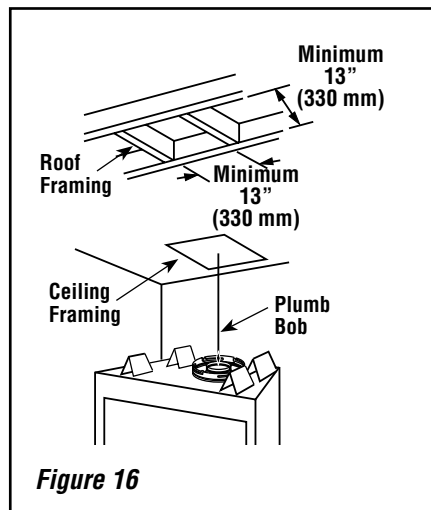

Figure 16
A. Frame ceiling opening - Use a plumb line from the ceiling above the appliance to locate center of the vertical run. Cut and/or frame an opening, 13" x 13" (330 mm x 330 mm) inside dimensions, about this center mark (**Figure 16**).
D. Attach vent components to appliance - To attach a vent component to the appliance collar, align the dimpled end over the collar, adjusting the radial alignment until the four locking dimples are aligned with the inlets of the four incline channels on the collar (refer to **Figure 16 on Page 14**).